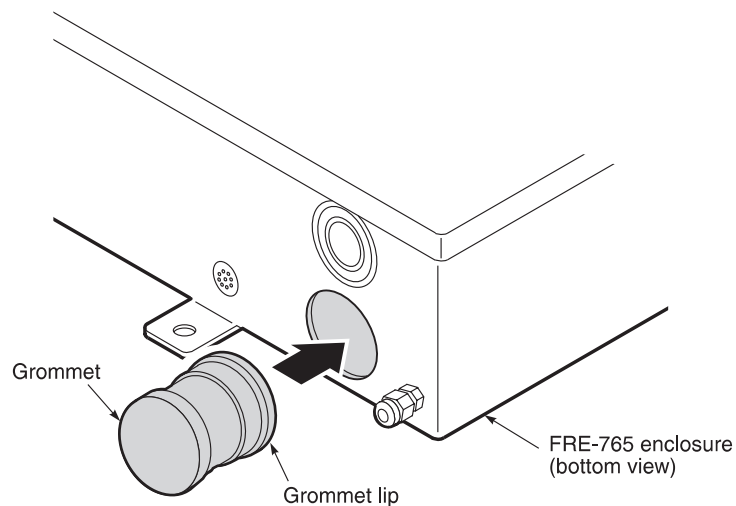

Figure 3. Installing the Grommet
- 7.3** When required, install the grommet into the base of the FRE-765 (Figure 3) prior to performing any wiring.